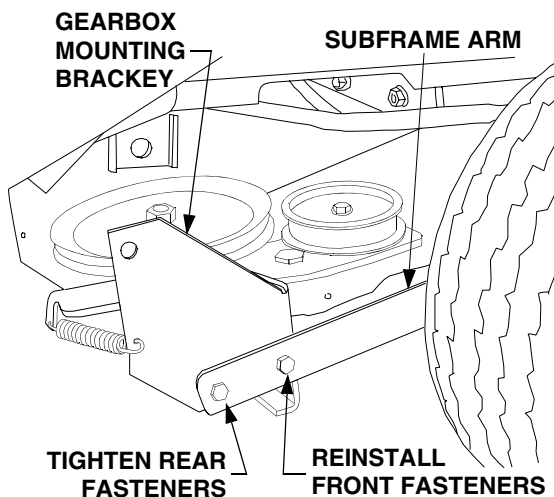

Figure 19
6. **Tractors with 15" front tires ONLY.** Align the gearbox mounting bracket with the subframe arms and reinstall the front hex cap screws and flange lock nuts. Tighten the rear fasteners. See Figure 19.